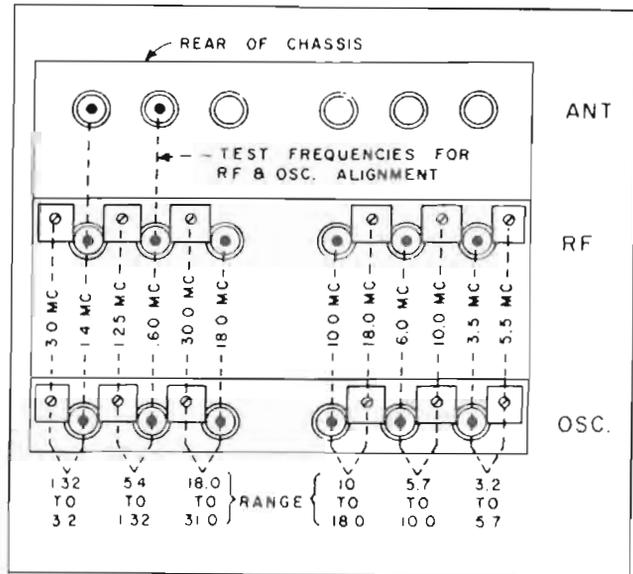

Figure 9. Antenna RF and Oscillator Tuning Diagram
c. As shown on the Chart (fig. 9), the front row of adjustments control the H.F. oscillator frequency and consequently the dial calibration. The middle row of adjustments control R.F. alignment, and the rear adjustments are for antenna alignment of the two lower frequency bands. These two antenna coils should be adjusted at the low frequency ends of the two bands with the antenna trimmer set at mid range. The TUNING RANGE switch is turned to the proper position for each band as required.